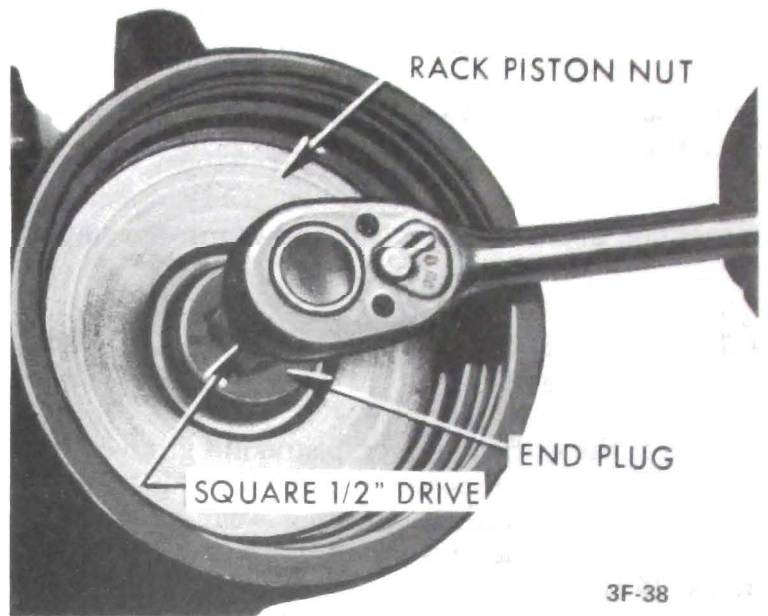

Figure 3F-38 Removing Rack-Piston Nut End Plug
6. Remove rack-piston nut end plug with a 1/2" square drive. See Figure 3F-38.
7. Insert ball retaining tool J-7539 in end of worm. See Figure 3F-39. Turn stub shaft so that rack-pis-